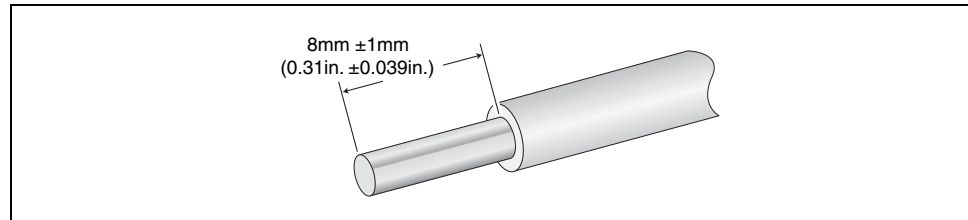

Figure 28. Stripped Wire
3. With a 14-gauge wire-stripping tool, strip the three wires in the tray cable coming from the DC input power source to  $8\text{mm} \pm 1\text{mm}$  ( $0.31\text{ in.} \pm 0.039\text{ in.}$ ), as shown in Figure 28 on page 60.